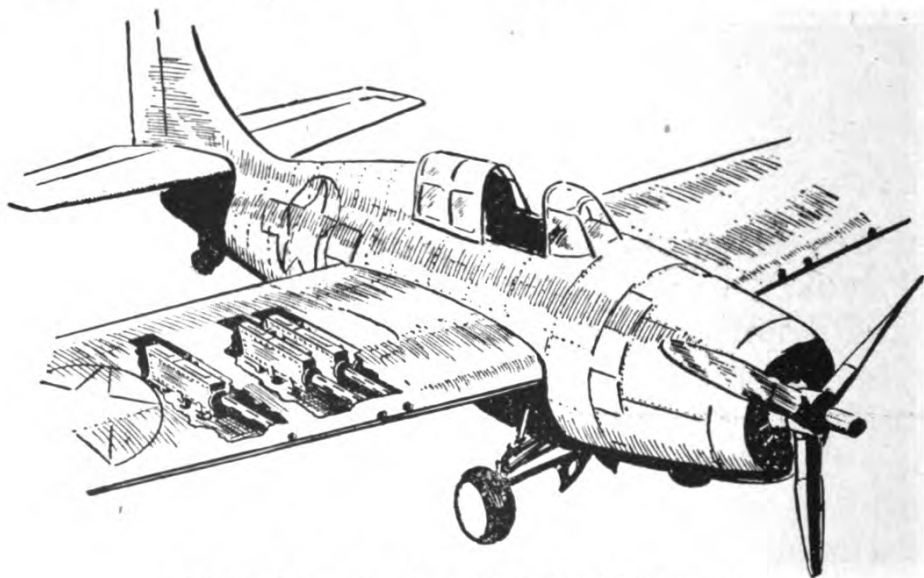

Figure 45.—Fixed guns in an airplane wing.
**FIXED GUNS** are rigidly mounted so as to fire in a direction practically parallel with the line of flight. Some fixed guns are synchronized to fire between the blades of the propeller. Others are mounted within the wing, as you see in figure 45, so that their line of fire clears the propeller blades. Such guns are operated by the pilot, who directs their fire by maneuvering the airplane. **FLEXIBLE MACHINE GUNS** are mounted in a way that permits them to be aimed at a target regardless of the direction in which the airplane is flying. Turret mountings combine the firmness of the fixed guns with the freedom of movement of the flexible guns. Actual battle experience has proved that turret guns are very effective, particularly against enemy aircraft which are not so equipped.